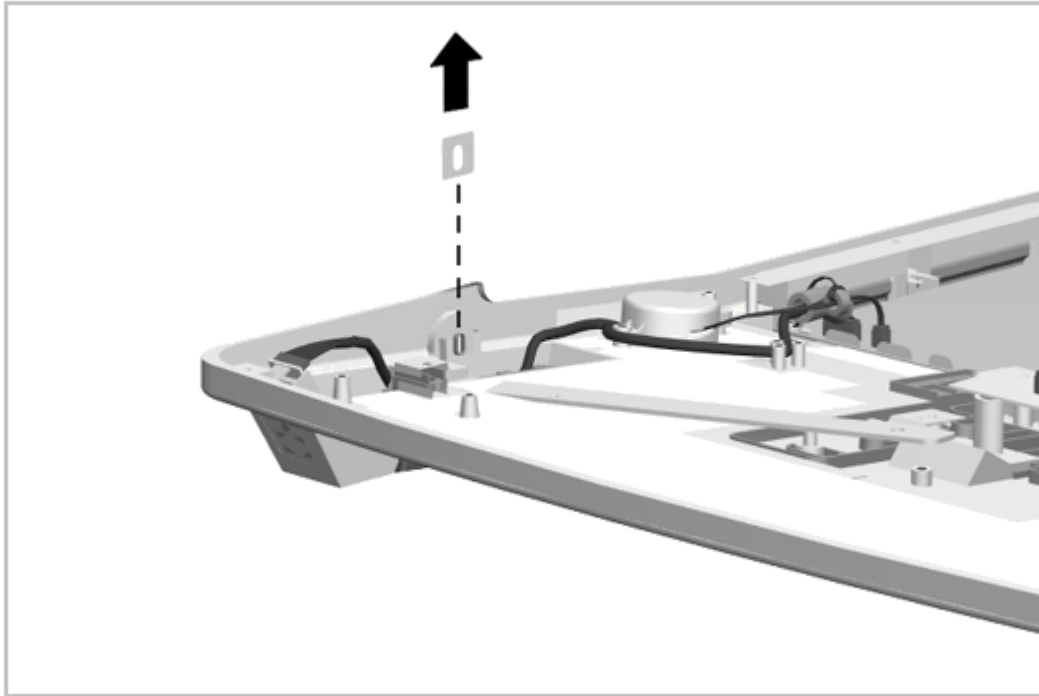

Figure 6-38. Removing the Security Lock Bracket
3. Use a flat-blade screwdriver to pry the bracket straight up, or use a small pair of pliers to grasp the bracket and pull it out (Figure 6-38).